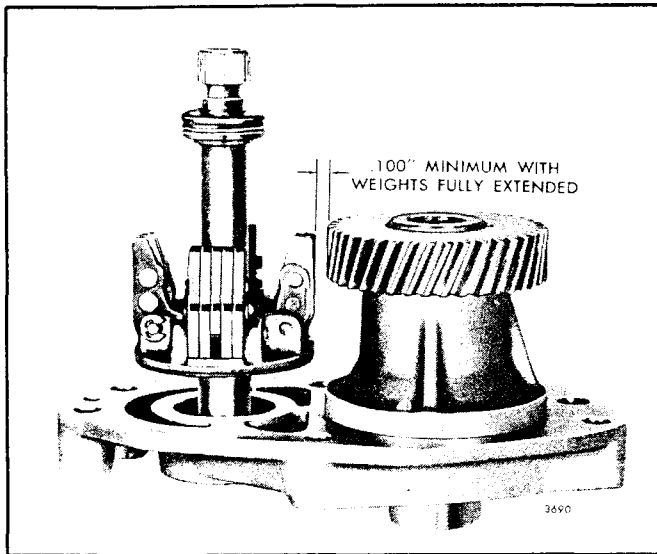

Fig. 18 - Minimum Clearance Between Blower Drive Gear and Governor Weights
7. Check the clearance between the fully extended governor weights and the blower drive gear. This clearance must not be less than $.100''$ (Fig. 18).